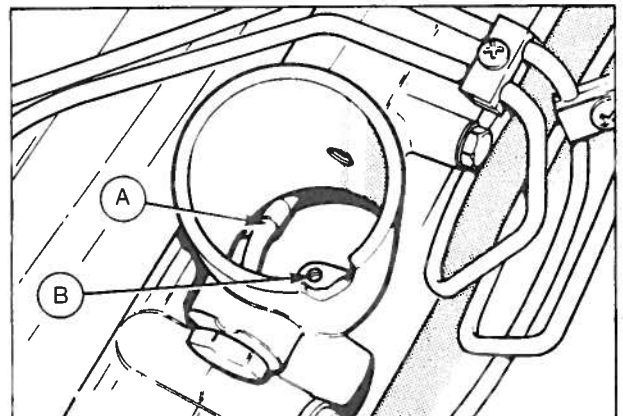

Fig. 51 Inlet manifold air intake
53. On 4 cylinder glow plug head engines, use a mirror to look down the manifold air intake and check that the loom does not pass over the air cleaner securing bolt hole – see Fig. 51. Relocate wire if required.